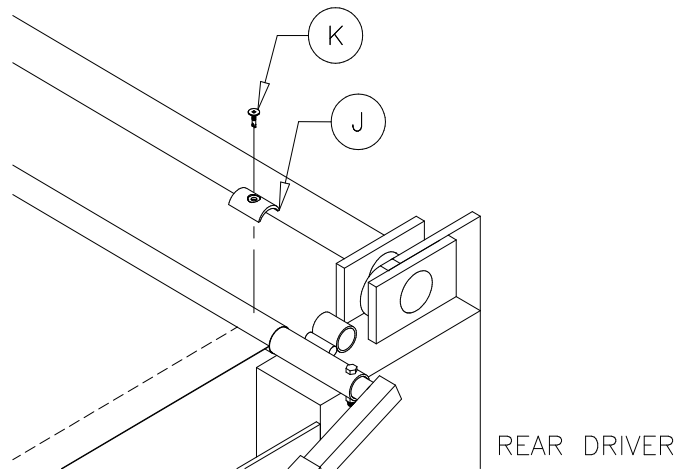

Figure 20
Center the rear tarp pocket on the rear pivot arm cross member (F). Position a PVC rear tarp clamp (J) on both edges of the tarp material. Fasten both tarp clamps to the tarp and rear pivot arm cross-member (F) with the #10-24x3-4 wafer head screws (K) provided (see Figure 20).